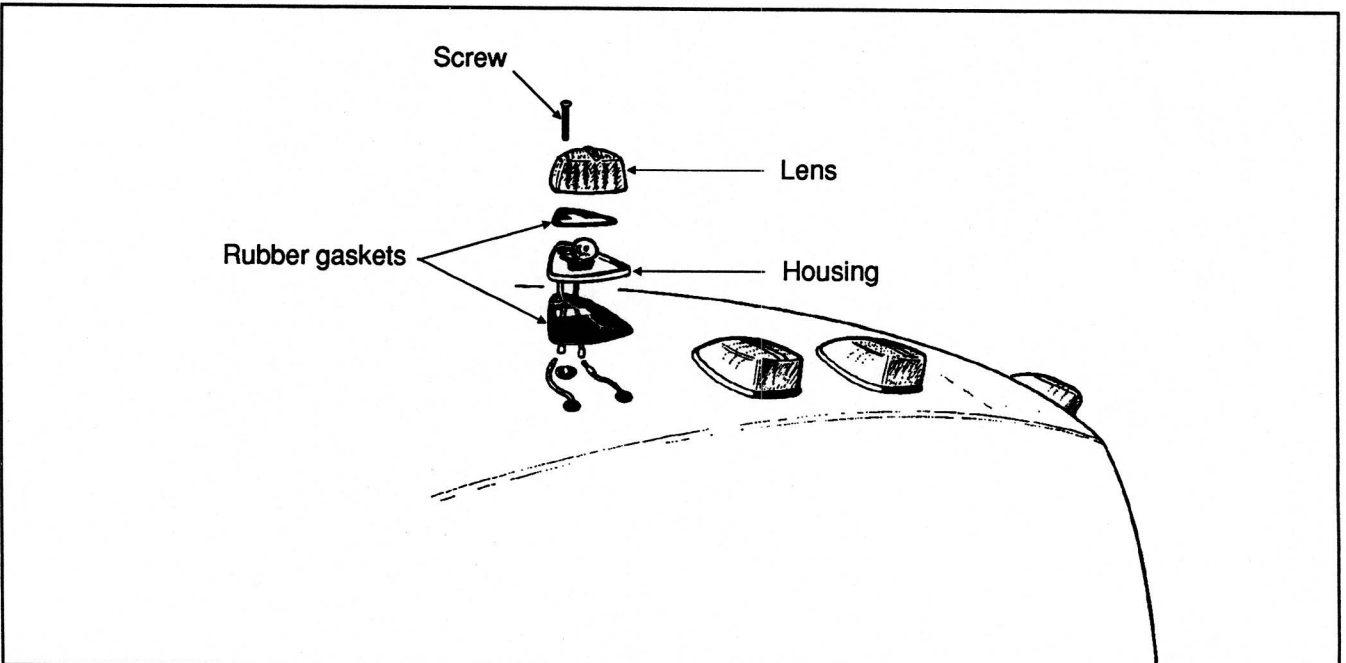

Figure 1
2. Unscrew the Phillips-head screw retaining the lens to the housing, then remove the lens. Refer to figure 1.